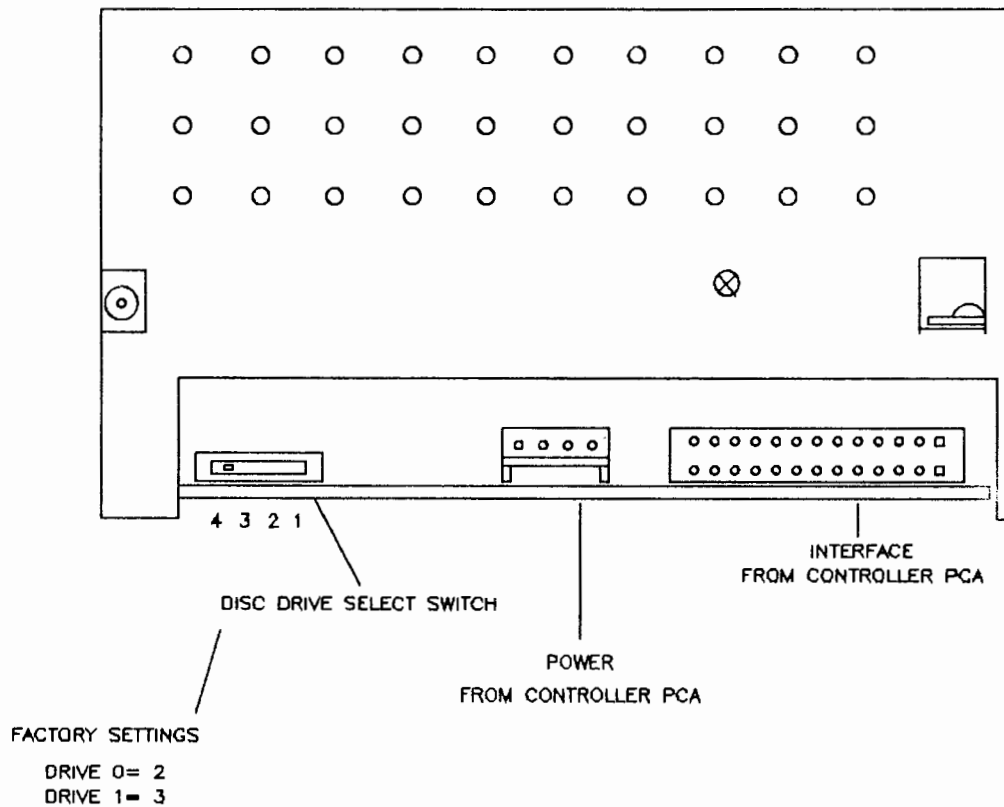

FIGURE 4-4
1. Using figure 4-4 as reference, take the disc drive select switch of **PHYSICAL** drive 0 and set it to position 3.
Return the drive select switch of each drive to its original position (refer to figure 4-4 for original positions).